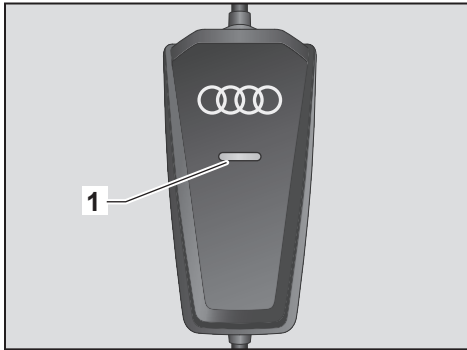

Fig. 5: Display unit.
- Possible errors are indicated via the control lamp => Fig. 5 -1- through different colors, lights, and flashing => page 10.